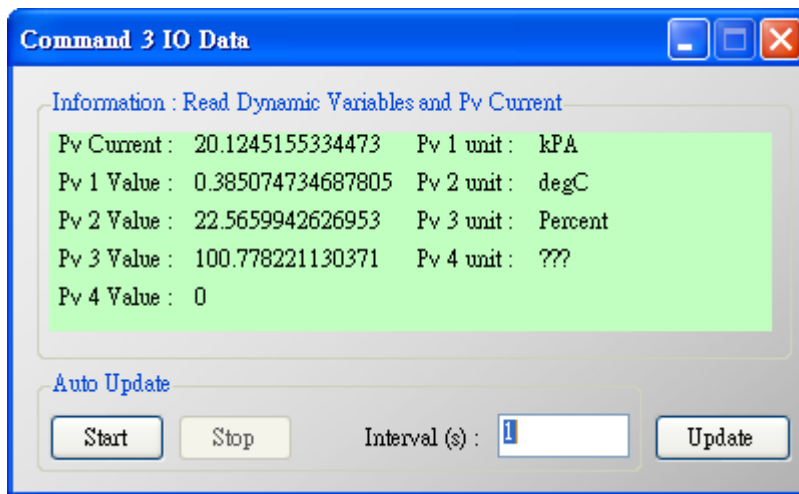

Figure 2-6 The I/O Data screen of the “Default CMD(3)” => OK
(6) The I/O Data of the “Default CMD(3)” is OK like Figure 2-6.